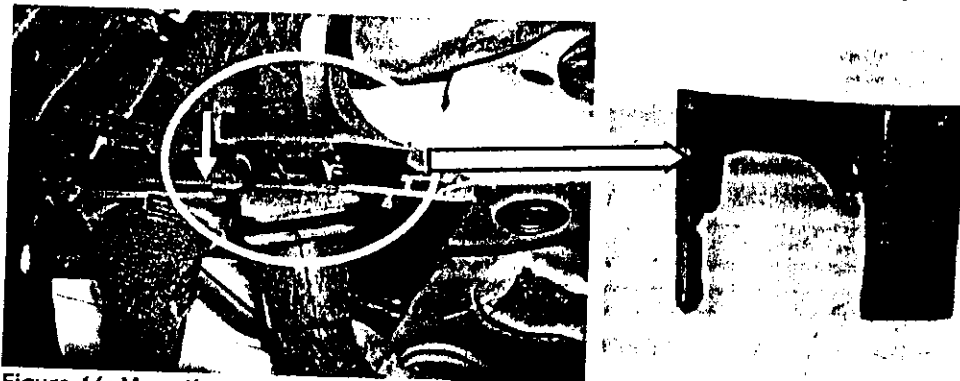

Figure 16: Mounting routing bracket
- d. Mount SBC wiring harness with new routing bracket (Figure 16)